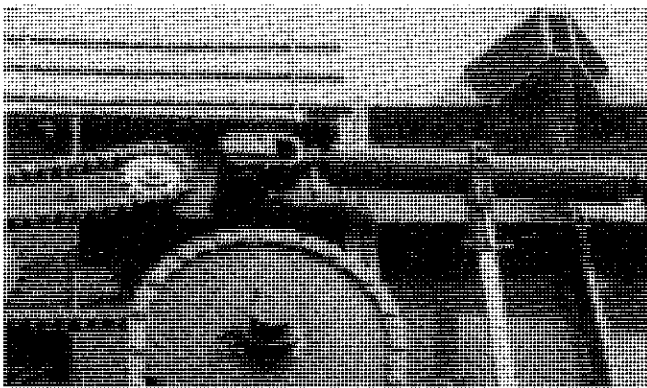

FIGURE 33 - SCREW JACK
3. Loosen the screw jack, at the back of the elevator, until it swings free of the tab on the truck elevator (see figure 33).